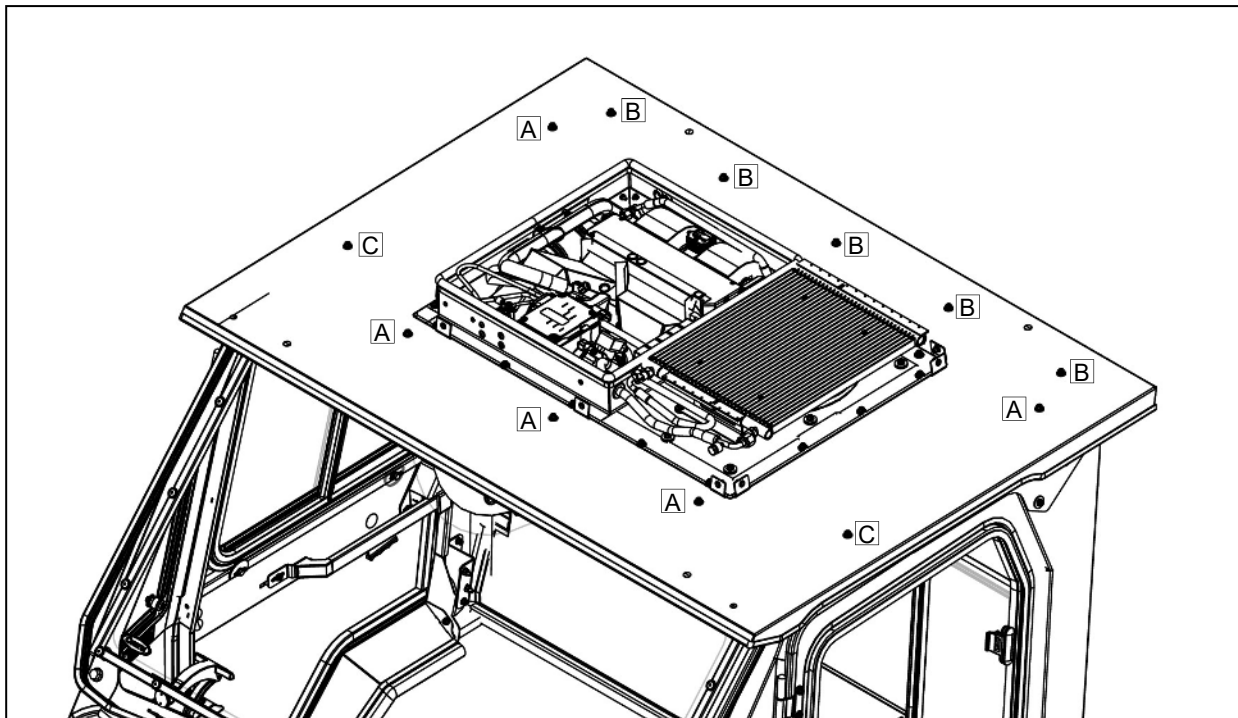

Fig. 3.1 Roof Fasteners
- 3.1 With assistance, place the roof onto the top of the vehicle as shown in Figure 3.1.
- 3.2 Secure the Roof to the ROPS and cab components with 1/4-20 x 3/4" screws, nylon washers, 1/4-20 nuts. The Nylon washers shall be on top of the roof. See location A in figure 3.1 Do not fully tighten.
- 3.3 Secure the Roof to the Upper Rear Panel with 1/4-20 x 3/4" screws, nylon washers, steel washers, rubber washers, 1/4-20 nuts. The Nylon washers shall be on top of the roof, the rubber washer shall be in contact with the polycarbonate of the Upper Rear Panel, and the steel washer outside of the rubber washer. See location B in figure 3.1. Do not fully tighten.
- 3.4 Secure the Roof to the Headers with 1/4-20 x 2-1/2" screws, nylon washers, 1/4-20 nuts. The nylon washers shall be on top of the roof. See location C in figure 3.1. Do not fully tighten.